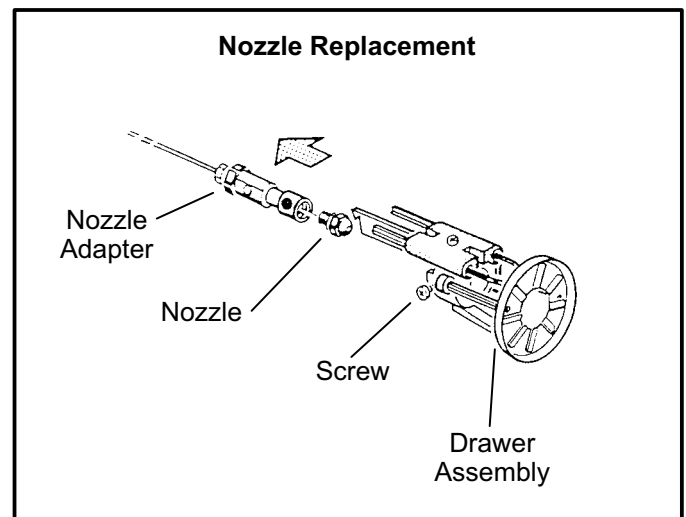

FIGURE 4
- 6 - Remove the screw as shown in figure 4 and slide the nozzle adapter from the drawer assembly.